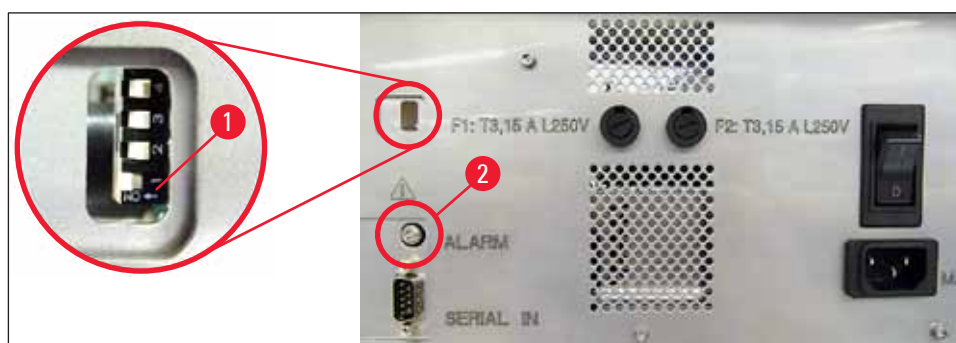

Fig. 44
- » To deactivate the beeper, push the switch at the very bottom (→ "Fig. 44-1") to the right (→ "Fig. 44").